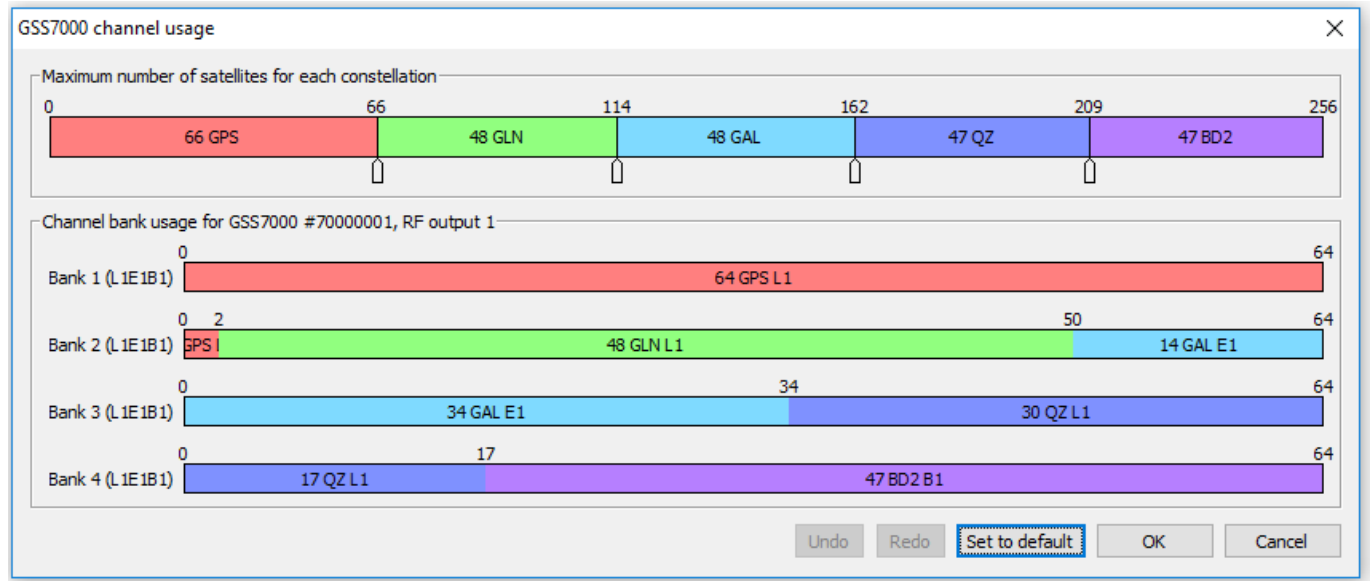

Figure 7 Dynamic channel allocation control concept
- Note for different signals on the same constellation (i.e. GPS L1 and GPS L5) it is not possible to have an un-equal ratio, as in practice the GPS constellation would transmit L1 and L5 signals equally on all satellites. Figure 7 illustrates the concept of the user slider control.